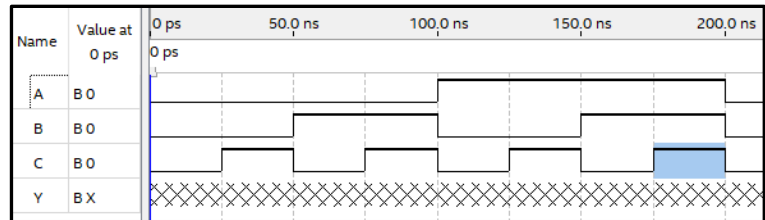

Figure 9: VWF with manual inputs
- 1) Use the magnifying glass to zoom in on the waveform window until you can see 50 ns intervals as seen in the image of Figure 9.
- 2) Using your mouse (make sure the pointer is selected), click and drag your mouse cursor across 100 ns to 200 ns on input A to select the area. Now select the “1” button on the toolbar (or select “Edit”, “Value”, “Forcing High (1)”) to set this signal to High during this time window.
- 4) Manually manipulate your signals to match the image in Figure 9. Save this simulation design.